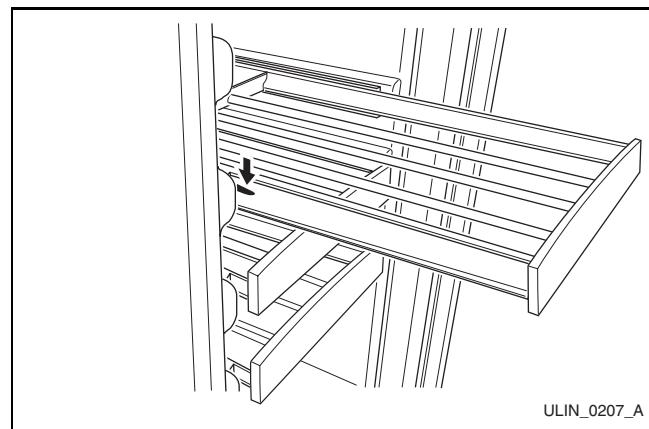

Figure 24
3. Press the left rack release lever (**Figure 24**) down, and at the same time, lift the corresponding right rack release lever up, and pull the rack out until it is free of the tracks and the cabinet.